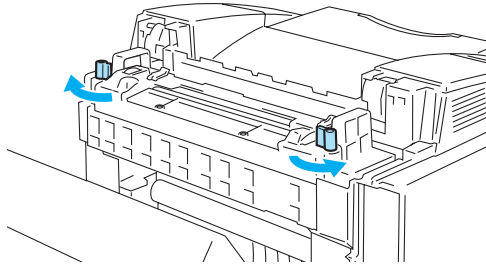

Figure 5-15
- 3 To release the fusing unit from the printer, release the lock levers that are on both sides of the fusing unit as shown in Figure 5-15.